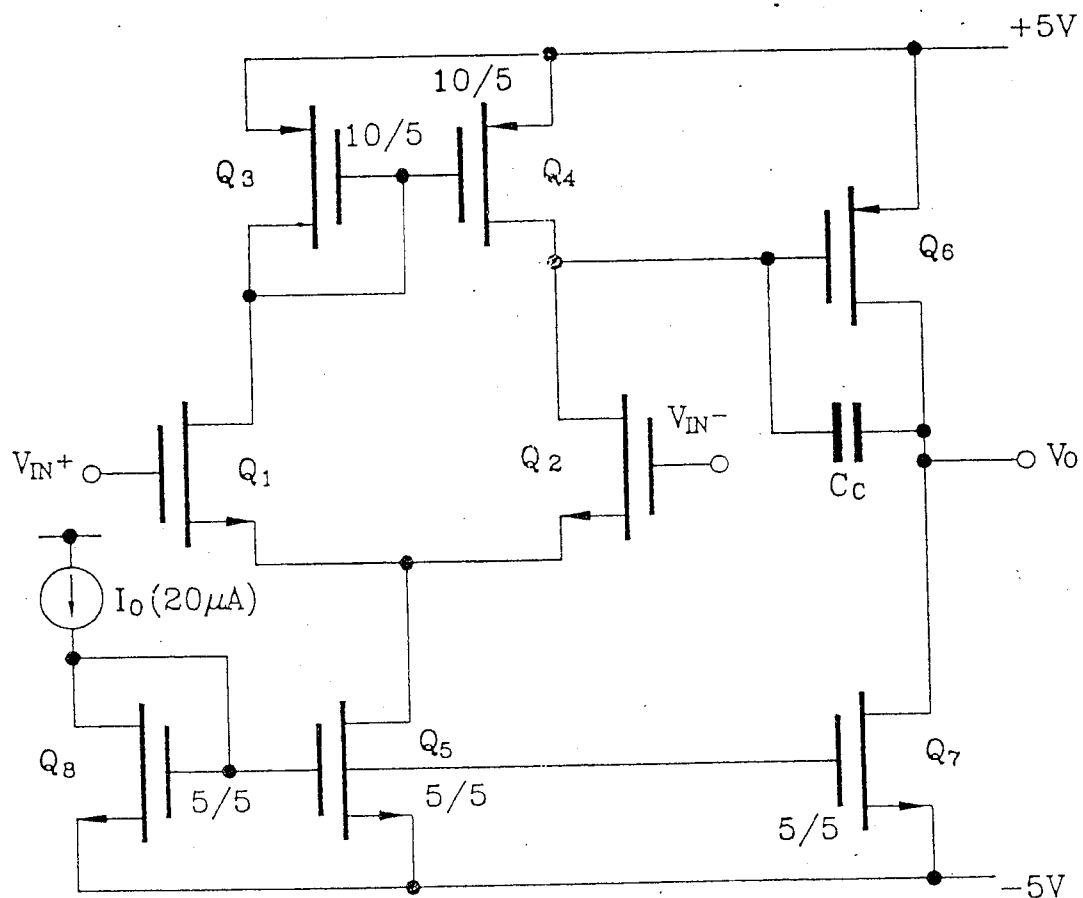

Figure 3
3. Figure 3 shows a partially-designed two-stage CMOS op-amp required to give a voltage gain of approximately 80 dB, a slew-rate of 5 V/ μ s and a gain-bandwidth product of 3 MHz. Given that the technology is a fixed 5 μ m length double metal CMOS process, design the channel widths of transistors Q1, Q2 and Q6 for the op-amp to meet the above performance specifications. Aspect ratios of all other devices are shown on the circuit. Assume all bulk effects are negligible. Device model parameters are given below. [16]
5. Classical CMOS operational amplifiers (op-amps) are either single-stage or two-stage designs. Based on the two stage design of *Figure 3* sketch a typical architecture for a two-stage cascoded output op-amp and a single-stage fully differential folded cascode op-amp. Briefly describe the operation of each of these op-amps and give one performance advantage and disadvantage of each compared to the basic op-amp architecture of *Figure 3*. Ignore common-mode feedback circuitry in the folded cascode op-amp. [18]